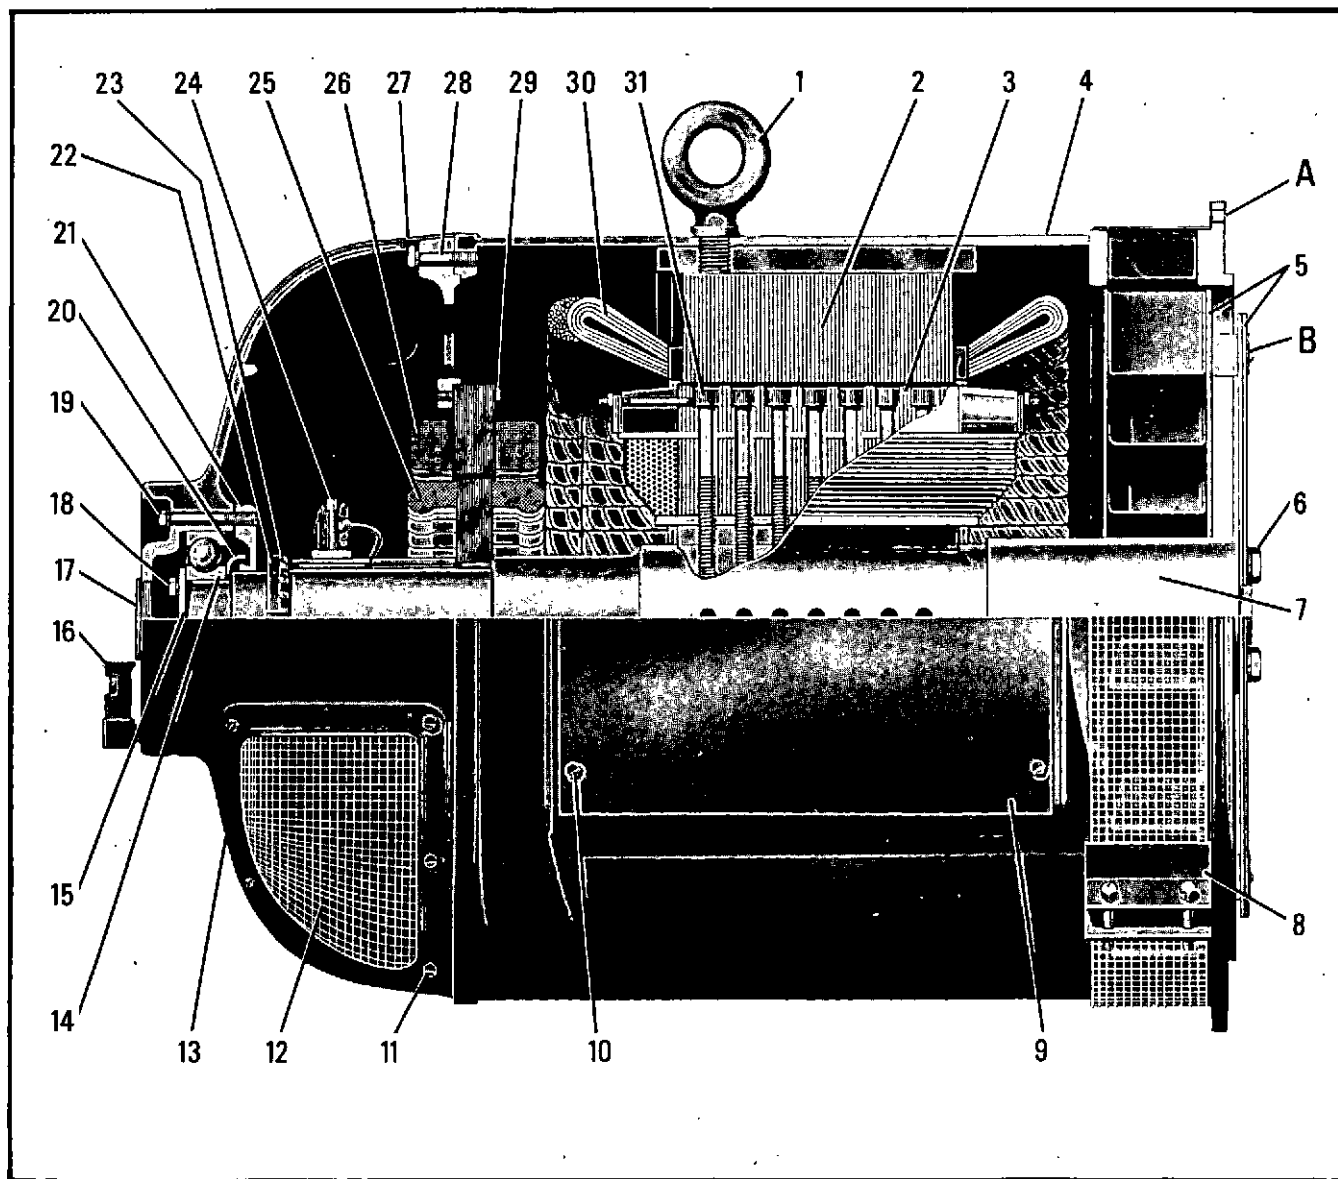
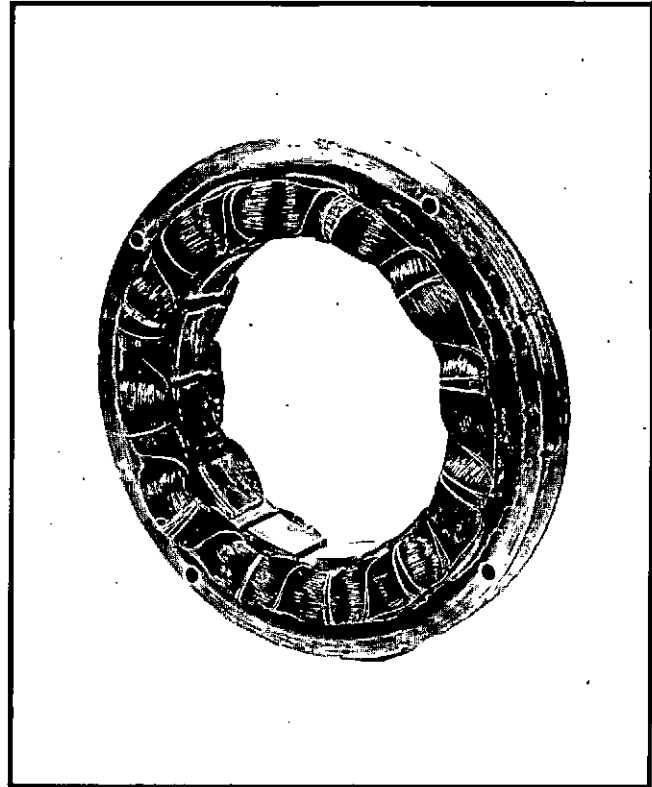

FIGURE 2
FIGURE 9
Numbers in () refer to Figures 2 through 7.
The generators illustrated in Figures 2 through 7 consist of two principal components: the alternator and the integral direct-connected exciter. The alternator may be subdivided into the rotating field, or rotor (7), and the stationary armature, or stator (4). The exciter consists of a rotating armature (25), and a stationary exciter field coil assembly (26). (Continued on P. 6)
2. Item 26 on Figure 2, is a lamination assembly with twelve coils connected in series. The assembly is bolted to the end frame. See Figure 9.
The end frame (13), in addition to furnishing support for the exciter field coils assembly (26), also incorporates the housing and oil or grease reservoir for the bearing (14). See Figure 2.
TYPICAL EXPLODED VIEW (KEY NUMBERS REFER TO FIGURE 2)
TYPICAL "BREAKAWAY" VIEW (KEY NUMBERS REFER TO FIGURE 2)